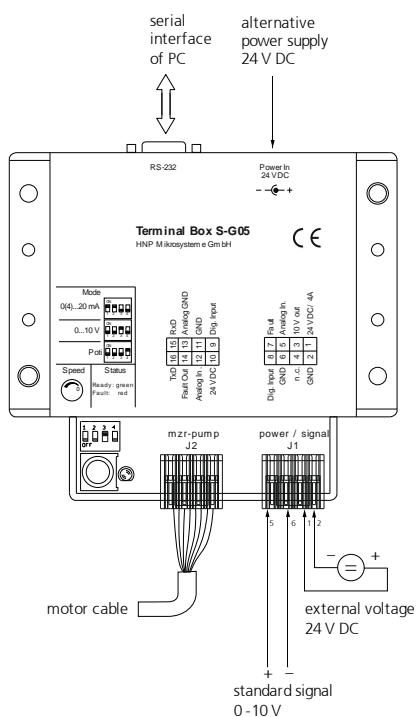

figure 17
4. Connect an external 0-10 V voltage supply to the terminal clamps »AnalogIn« and »GND« to the S-G05. (see figure 17)
4. Connect an external 0-10 V voltage supply to the terminal clamps »AnalogIn«, »10 V« and »GND« to the S-G05.(see figure 17)